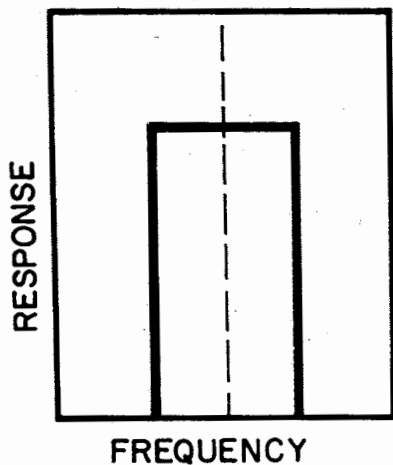
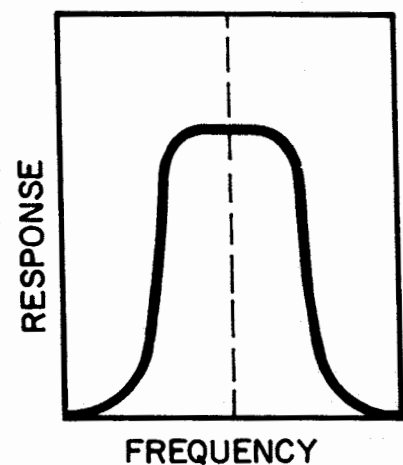

Figure 3
Figure 5
Since the sidebands of an FM signal extend for a considerable distance on either side of the carrier, a broad flat response is desirable. Beyond this, a sharp decrease in response is necessary to attenuate the adjacent channels. It would be logical, therefore, to assume that the ideal receiver response curve would be similar to that shown in Figure 3.
In practice, therefore, FM receivers have a response curve (Figure 5) which is a compromise between those shown in Figures 3 and 4. The steep sidewalls provide adjacent-channel selectivity and the broad nose provides adequate bandwidth. At the same time, the rounded shoulders minimize phase distortion and impulse noise interference.
To understand how L-C circuits can be used to obtain the response shown in Figure 5, it is necessary to understand the three major factors which affect the response curve of an I-F transformer: (1) the Q of each tuned circuit in the transformer, (2) the coefficient of coupling between circuits, and (3) the number of tuned circuits used. Let's look at each of these in turn.
Circuits are also added to I-F filters to improve the shape of their response curves. By adding a single-tuned circuit to the double-humped curve characteristic of overcoupled resonant circuits, the shallow depression in the center can be raised, giving a broad, flat-nosed curve. The 6-coil Lo-IF transformers in Progress Line receivers use a slightly different amount of overcoupling between each of the three pairs of coils. The result is a response curve very similar to Figure 5.